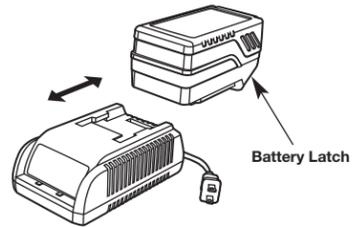

Fig. 7
3. Insert the battery into the charger (Fig. 7).
5. The battery may be removed or stored in the charger once it is fully charged; however, it is recommended to disconnect the plug from the wall outlet/receptacle. To remove the battery, hold down the battery latch and slide the battery off the charger (Fig. 7).